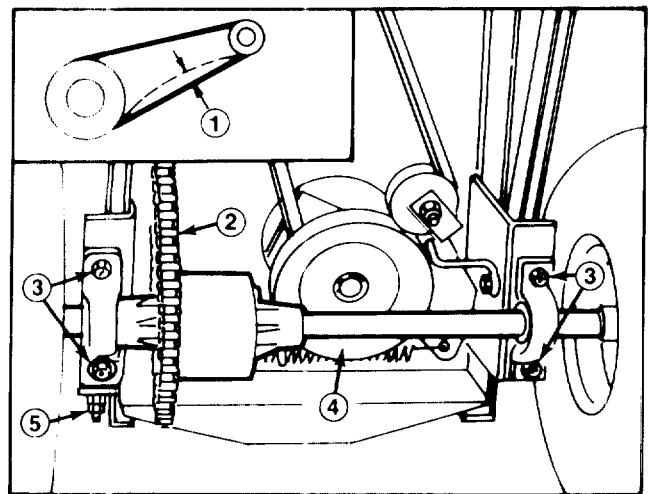

Figure 26
1. Check deflection of drive chain by lifting up on chain with moderate pressure at mid span (Fig. 26). There should be 1/8 of an inch (3 mm) deflection (Fig. 26). If deflection is not as specified, an adjustment is required — steps 2-13.
on top of 2" x 4" blocks (Fig. 26). Wheels must be off the floor so axle can be moved.
6. Loosen four flange nuts securing pillow blocks w/ differential axle to the rider frame (Fig. 26).
7. Loosen rear jamnut on chain tensioner (Fig. 26).
10. Since differential axle must be parallel to rear of chassis, measure distance from center of pillow blocks to rear of chassis (Fig. 26). Difference between the two measurements must not exceed 1/4 inch (6 mm). If difference exceeds 1/4 inch (6 mm), differential axle is not parallel with chassis; therefore left side must be repositioned to attain desired dimension. Tighten lock-nuts securing left pillow block to rider frame.